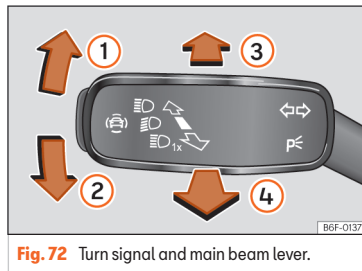

Fig. 72 Turn signal and main beam lever.
- From the base position, press the turn signal and main beam headlights lever forwards >>> Fig. 72 .
- **EITHER:** if main beam assist is on, pull the turn signal light and main beam headlights lever back >>> Fig. 72 .